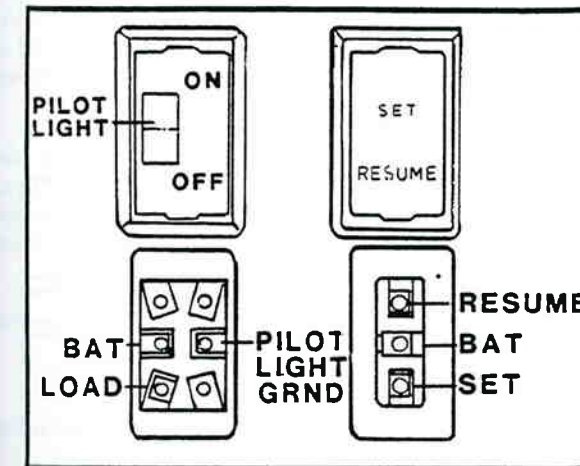

Figure 9-13. Cruise Control Switch Leg.
**CONTROL SWITCH PANEL** — Two electrical switches, located within easy reach of the driver, are used to control the system (figure 9-13). The On/Off switch supplies electrical power to the system and the Set/Resume switch controls the vehicle speed set and speed resume function.